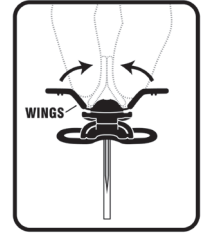

Figure 1
3. Grasp the wings between thumb and forefinger (Fig. 1).